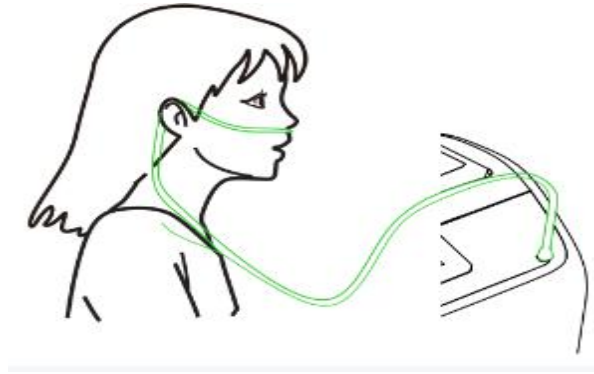

Figure 6
- a. Attach the oxygen tubing directly to the connector. (Figure 6)